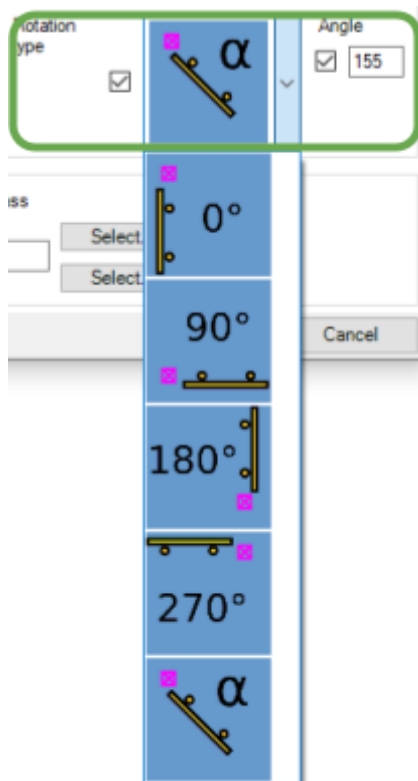

Figure 10.1. Rotation the mesh at an random angle
3. In new version 1.4 it became possible to rotate the mesh at an random angle (see figure 10.1)